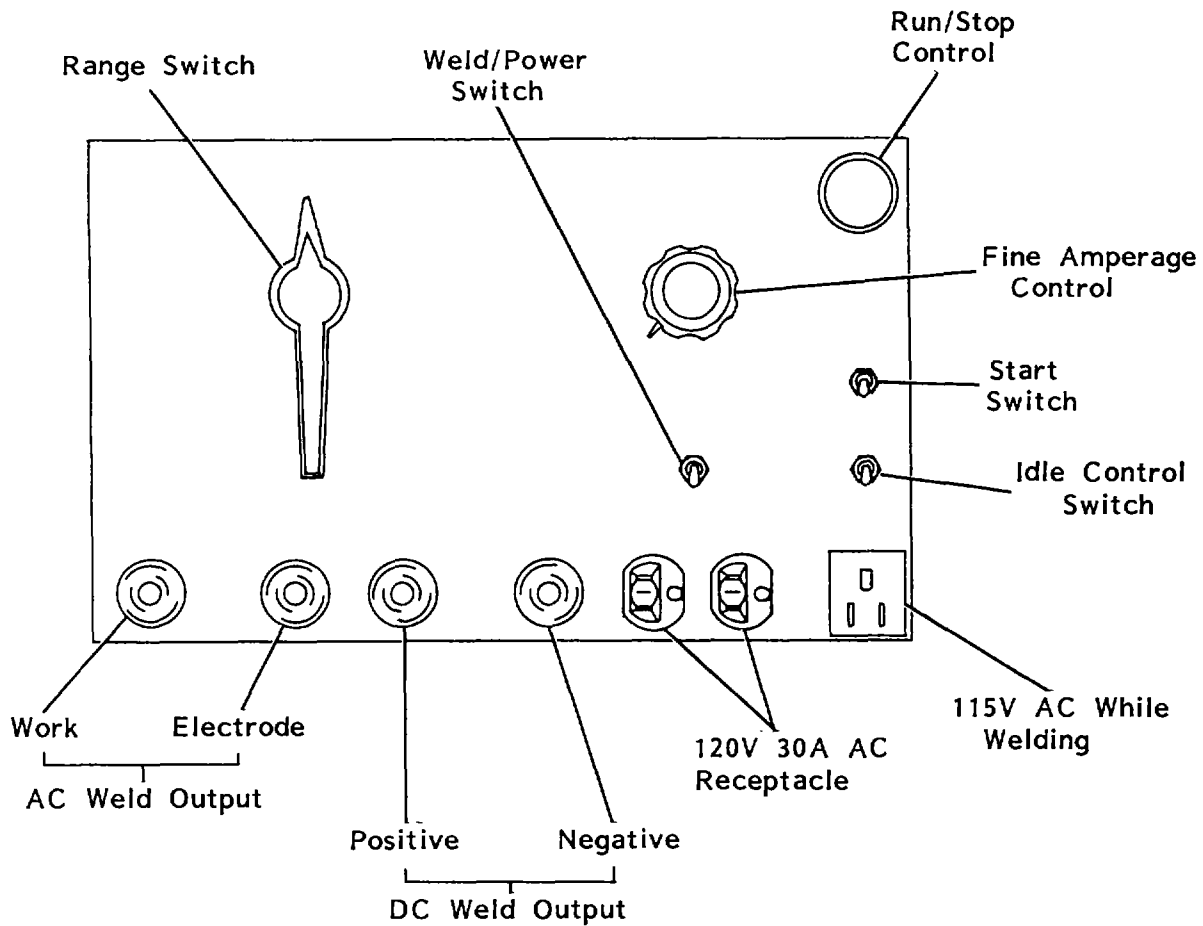

Figure 2-32. Welder/Generator Control Panel
- (1) Starting Engine. See Figure 2-32.
- (2) Stopping Engine. (See figure 2-32.)
- (3) Shielded Metal-Arc Welding. (See figure 2-32.)
- (h) Place weld/power switch in POWER position. See Figure 2-32.